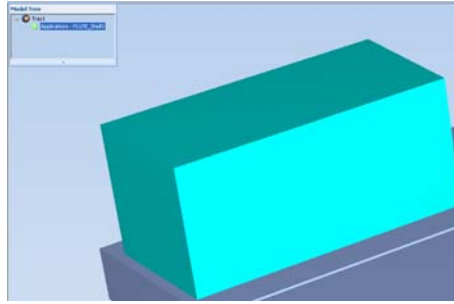

Figure 5-36: Model displayed with bounding box
- With a *Bounding Box* (see figure 5-36 on page 31)